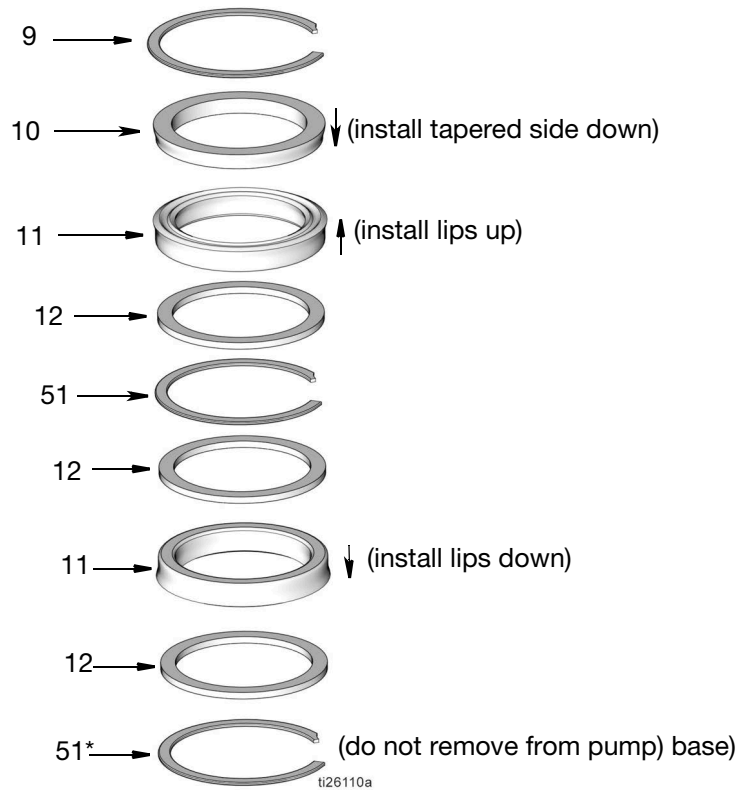

**FIG. 30**
1. Use a clean cloth to wipe down the pump base (1) and remove any dirt or contaminants. Inspect surface for any scratches or damage. Replace the pump if the pump base is damaged.
2. If necessary, reposition the pump base (1) in the vise as shown in FIG. 30.